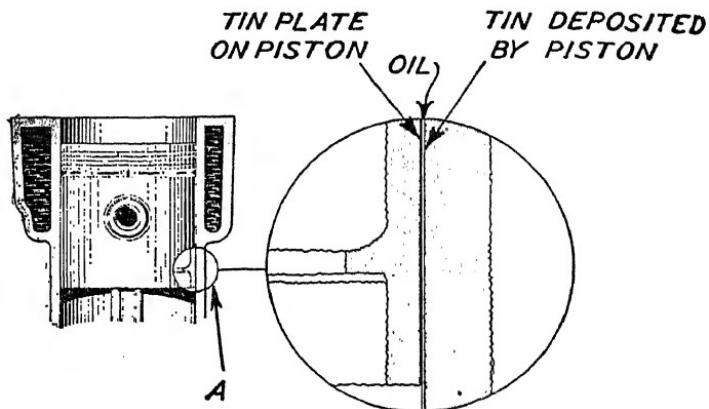

Fig. 50. Tin-Plated Piston
**Tin-Plated Pistons.** The primary purpose of plating pistons is to assure a short and safe running-in period for a new engine. Incidentally, of course, the running-in period is the determining factor in the ultimate length of life of any engine. A graphic illustration of just how the tin serves to facilitate the running-in of a new engine is given in Fig. 50. An enlarged view of the section of piston and cylinder shown in the small circle at A is produced at the right.